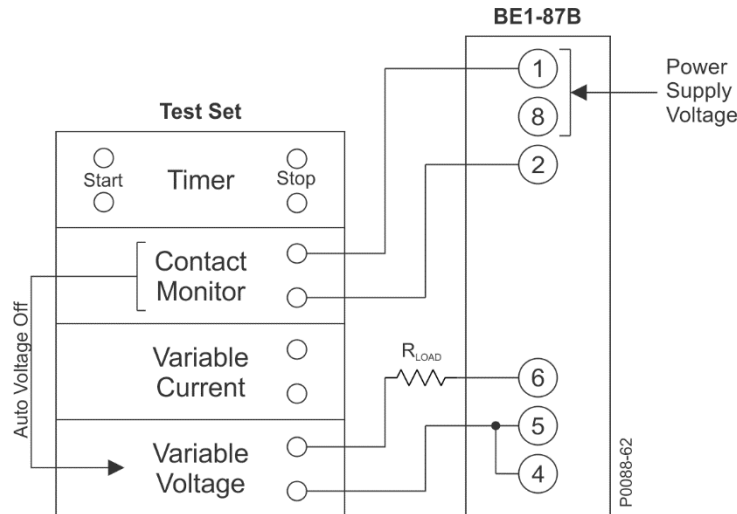

Figure 16. Pickup Voltage Test Setup
2. Connect the relay according to the test diagram shown in Figure 16. Verify that the CT OV and Trip LEDs are reset.